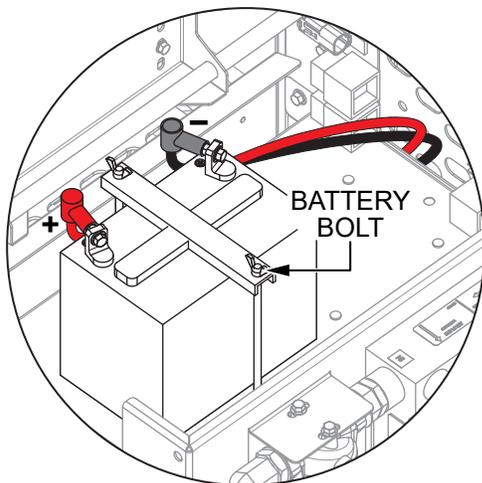

Figure 15. Battery Connection
2. Make sure the battery is well secured in the battery tray with the **two battery bolts** (Figure 15).
3. Connect the positive (**RED**) battery cable to the positive (+) terminal on the battery, then connect the negative (**BLACK**) battery cable to the negative (-) terminal. See Figure 15.